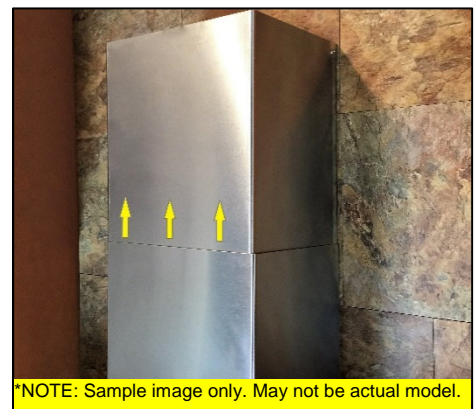

Figure 3
18. Pull the inner duct cover up until it aligns properly to the duct cover mounting bracket, then secure to the duct cover mounting bracket with 5 x 12 mm screws. Refer to Figure 3 and 4.